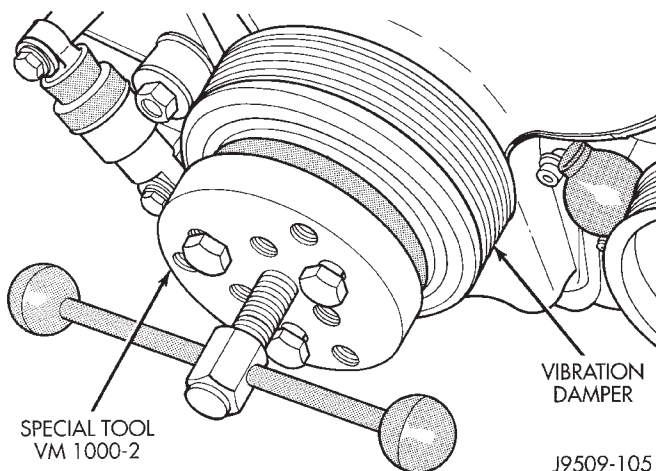

Fig. 26 Vibration Damper Removal With Tool VM-1000-2
- (1) Disconnect the battery cable.
- (2) Remove fan and set fan inside fan shroud then remove fan shroud and fan as an assembly.
- (3) Remove accessory drive belt, (refer to Group 7, Cooling).
- (4) Remove vibration damper nut.
- (5) Install tool VM-1000-2 to remove vibration damper (Fig. 26).